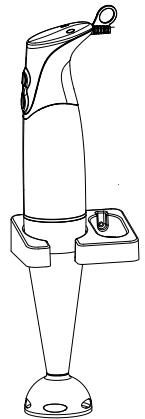

Fig. 5
5. Reassemble the blender stem to motor unit then place it upright in wall bracket (see Fig.5) or hang it up for saving space.